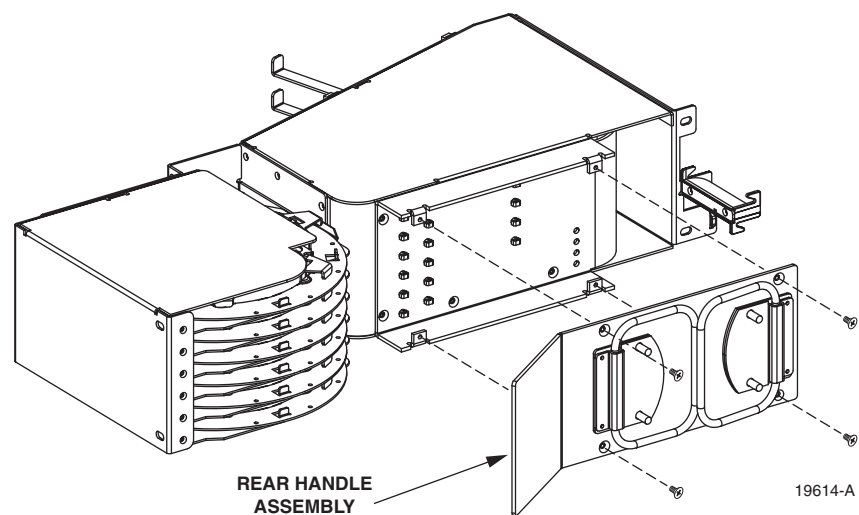

**Figure 21. Cable Clamp Assembly for Distribution Cable**
6. Assemble the clamps (and grommet if required) on the cable as shown in Figure 21 and then secure the cable to cabinet at the clamping position selected in step 4.